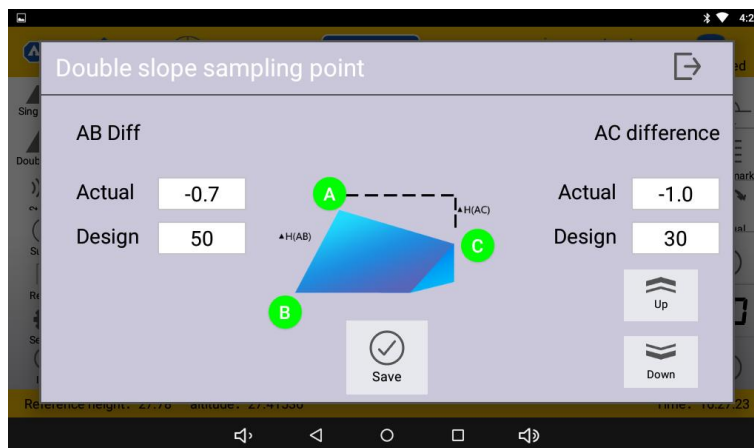

Figure 17
Step6. Click the Up button to lift the blade and drive to the low point B. After clicking the Down button to stick the blade to the ground, click the B icon on the interface, and the icon turns green to indicate that the point collection is complete. The software will display the actual elevation between points A and B. (Figure 17)